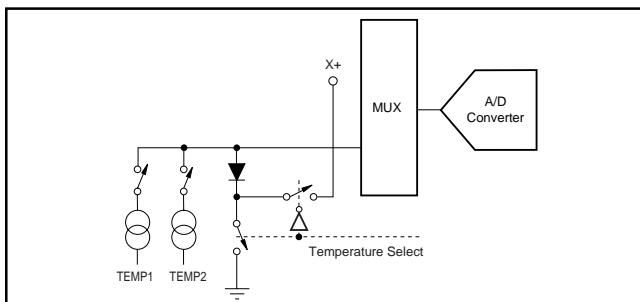
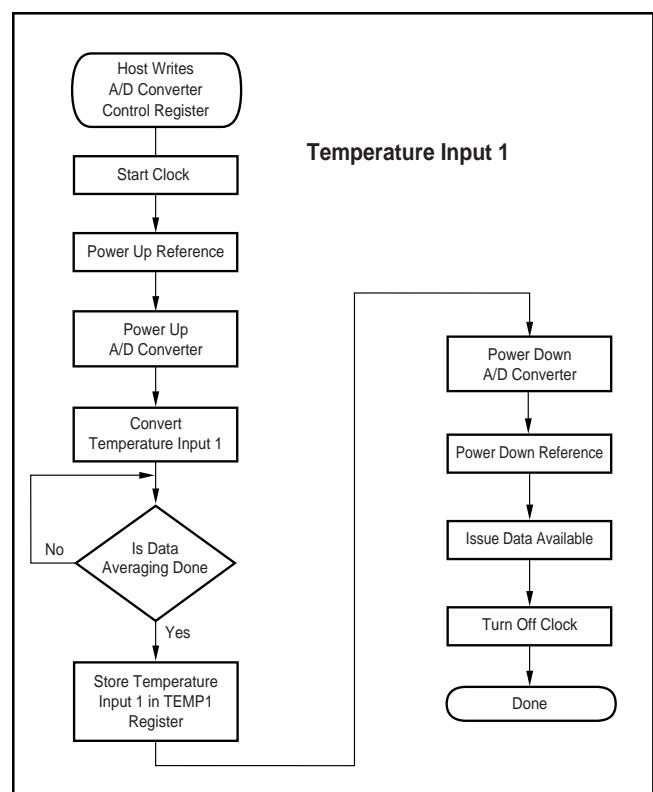

FIGURE 18. Functional Block Diagram of Temperature Measurement Mode.
FIGURE 19. Single Temperature Measurement Mode.
The TSC2000 offers two modes of temperature measurement. The first mode requires calibration at a known temperature, but only requires a single reading to predict the ambient temperature. A diode, as shown in Figure 18, is used during this measurement cycle. This voltage is typically 600mV at +25°C with a 20 μ A current through it. The absolute value of this diode voltage can vary a few millivolts; the temperature coefficient (TC) of this voltage is very consistent at $-2.1\text{mV/}^{\circ}\text{C}$. During the final test of the end product, the diode voltage would be stored at a known room temperature, in system memory, for calibration purposes by the user. The result is an equivalent temperature measurement resolution of 0.3°C/LSB. This measurement of what is referred to as Temperature 1 is illustrated in Figure 19.